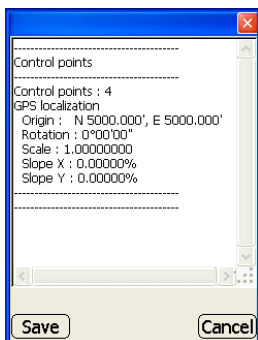

Figure 3-5. Control Point Information
- **Info** – displays the information on the selected file (Figure 3-5). Press **Save** to save the information as a text file. Enter the name of the new file and press **Ok**.